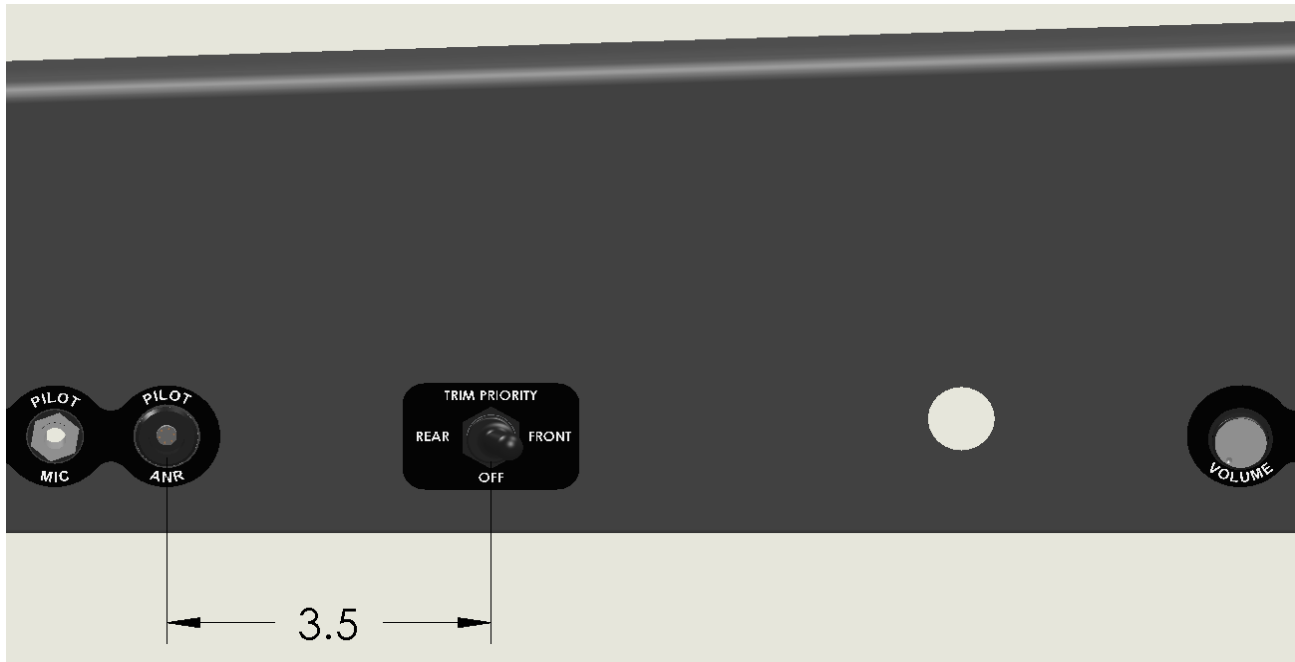

Figure 1
- b. Suggested placement with rough dimension see Figure 1: